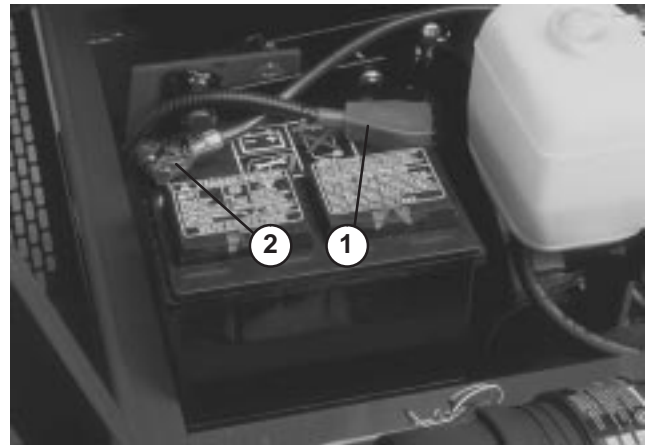

Figure 2
2. Ensure battery is securely fastened in place and check battery charge with a hydrometer. If battery needs charging, be sure at least one battery cable, preferable the positive (+) cable, is disconnected from the battery before connecting the charger (Fig. 2).
3. Slide the red, positive battery cable onto the positive battery post and tighten nut securely (Fig. 2).
4. If removed, slide the black, negative battery cable onto the negative battery post and tighten nut securely (Fig. 2).